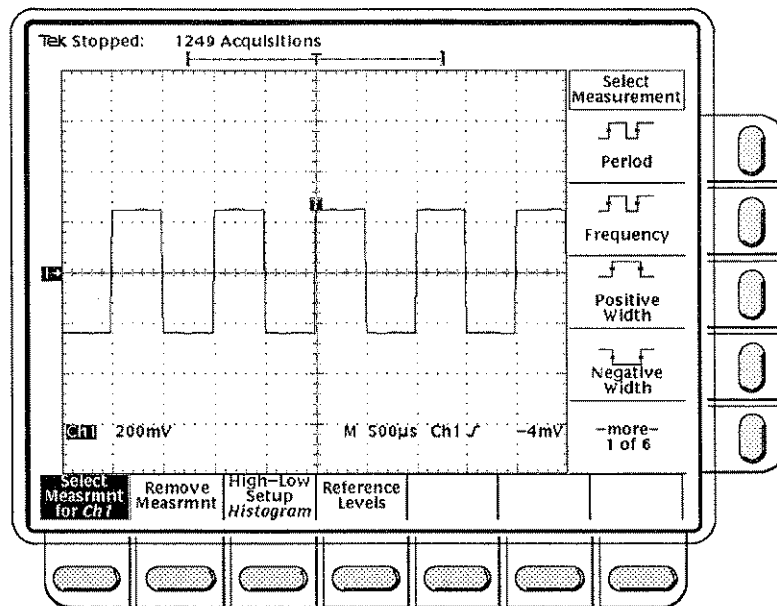

Figure 3-30: Measure Menu
- Step 2:** Press the **MEASURE** button to bring up the Measure menu (Figure 3-30).